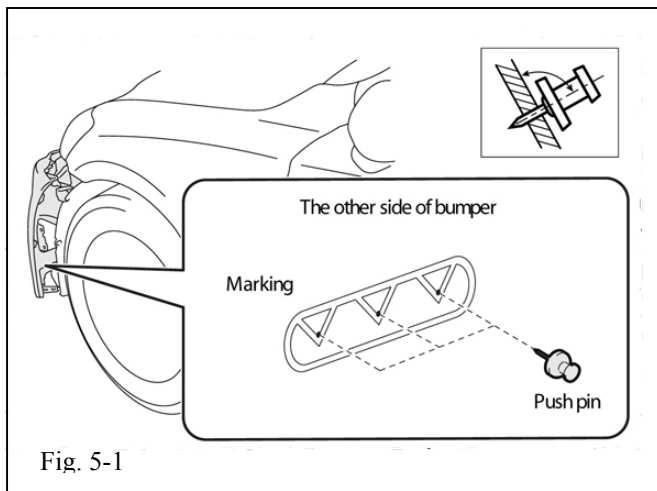

Fig. 5-1
- (1) Locate the marking on the backside of the bumper. (Fig. 5-1).
- (2) Place marks on the three marking points behind the front bumper cover by fully inserting a push pin into the centers of those points. (Fig. 5-1)